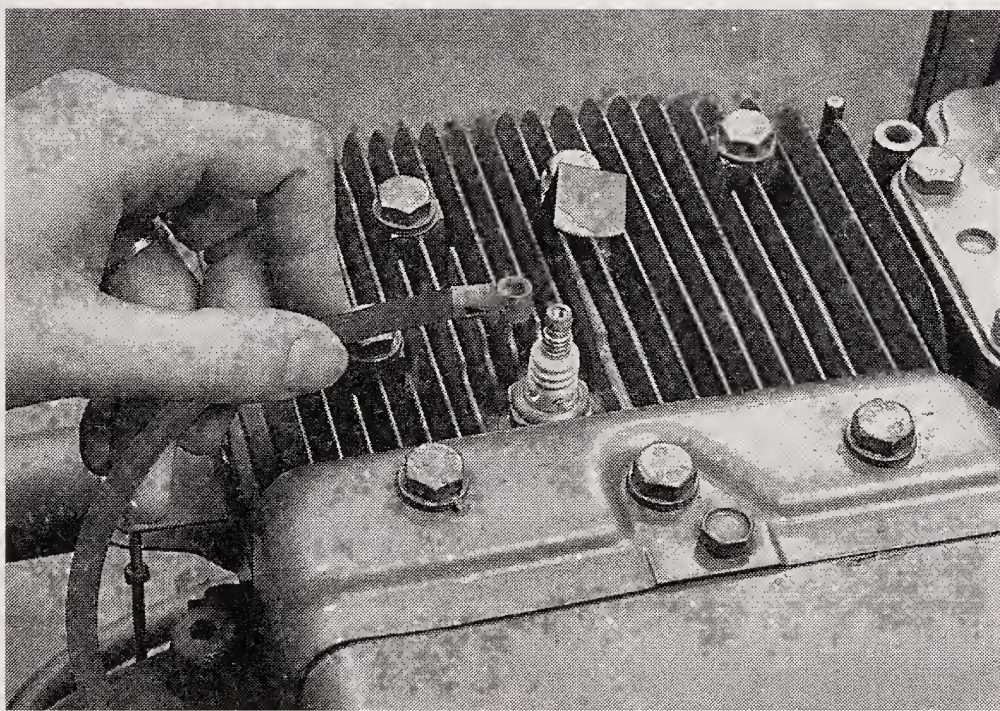

Figure 14-11. If spark does not jump a 3/16" gap at the plug tip but jumps the same gap at the base of the plug, the plug is defective.
3. Hold the plug wire by the insulation (well away from metal connector) so that the connector is 3/16" from the tip of the plug. See **Figure 14-11**.